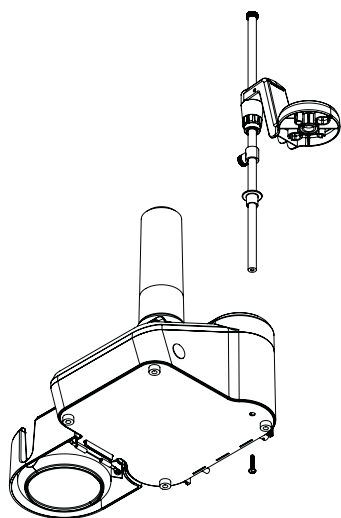

Figure 3. Fastener Location for Tightening the Electrode Holder Shaft
2. Fasten Electrode Holder Shaft to Titrator by tilting the unit and tightening the supplied fastener. The fastener is a captive screw accessible through the hole on the bottom of the Titrator. A Torx T20 drive type screwdriver is included with the titrator for this step of installation. Refer **Figure 3**.